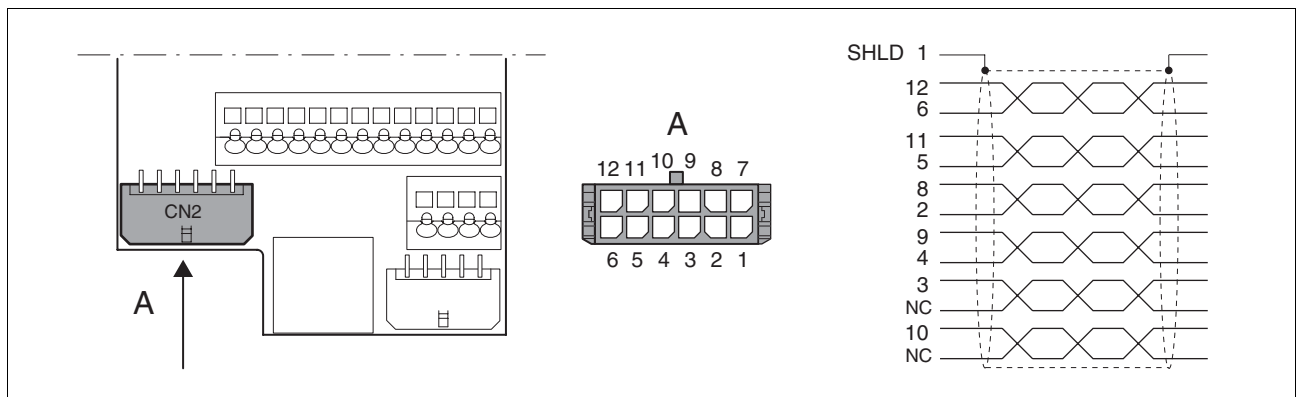

Figure 6.14 Motor sensor wiring diagram
- (1) Remove the cable sheath, length A depends on the device, see the table above.
- (2) Slide the shield braiding back over the cable sheath. The shield braided filler wire is required as the connection.
- (3) The red and the violet braided wires are not required and can be cut off. Insulate the shield braided wire with shrink wrap.
- (4) Crimp the plug contacts on the remaining braided wires and on the insulated shield braided wire. Insulate the shield braiding with shrink wrap. Plug the crimp contacts into the connector shell; for the pin assignment see Figure 6.14.
- (5) Sheath the cable to length C on the position shown, the cable is fastened there at the EMC plate with a clamp (shield-earth connection).